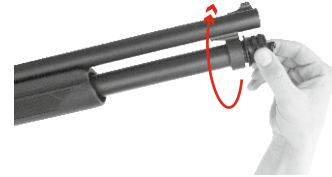

Fig.6
4. Reattach the magazine cap, screwing it down as tightly as possible (Fig.6).